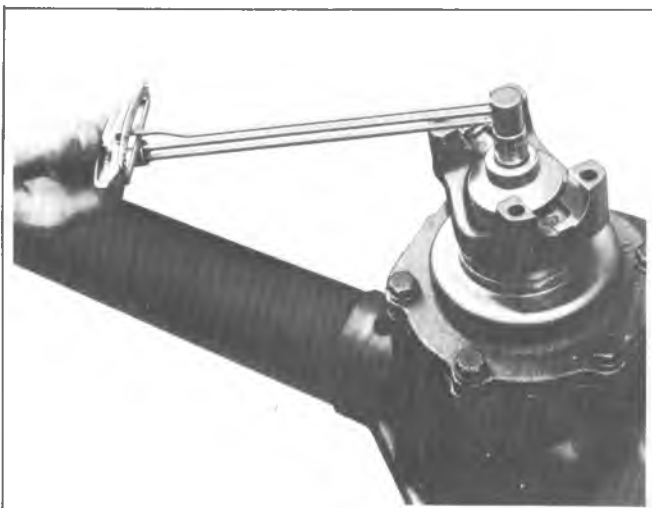

Fig. 15E--Measuring Rotating Torque
- b. Tighten pinion nut to approximately 350 ft. lbs., then take a torque reading as shown in figure 15E, using J-5853.